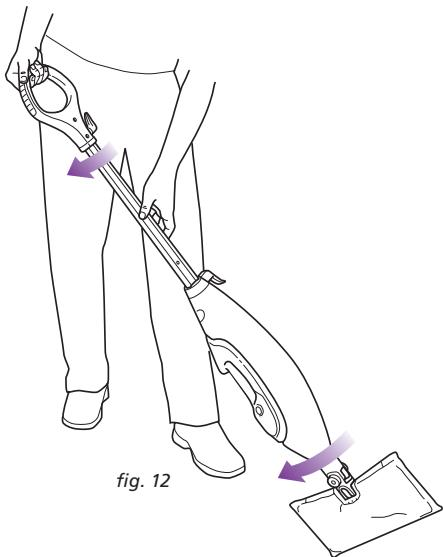

fig. 12
- When one side of the cleaning pad gets dirty, just flip the mop and you can quickly start using the other side. (fig. 12)